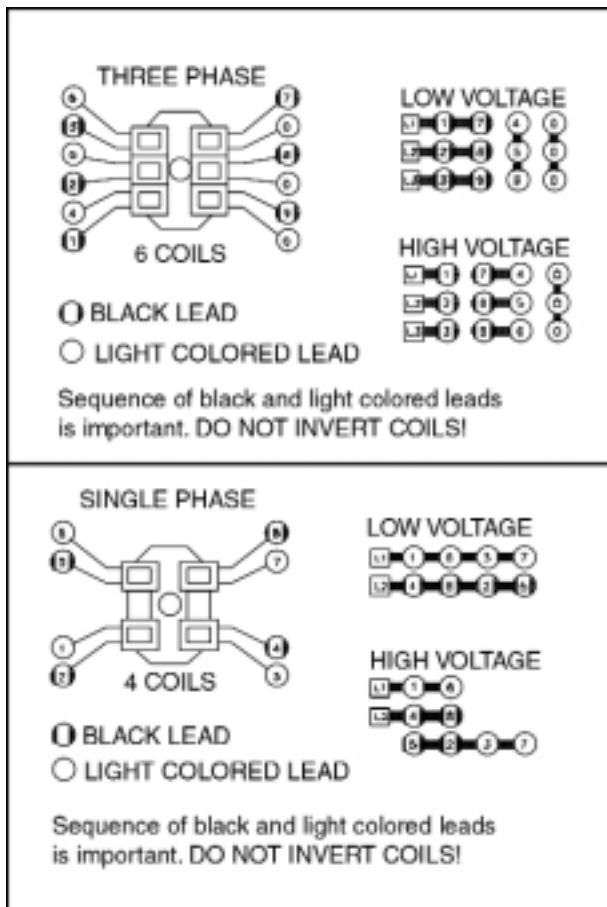

Figure 2. Wiring Diagram
5. Connect coil leads per appropriate wiring diagram in Figure 2 and replace cover.
When installing coils, it is very important to follow EXACTLY the sequence of black and light colored leads as shown in wiring diagram (Figure 2). The brake will not operate properly unless coils are all in the correct position.